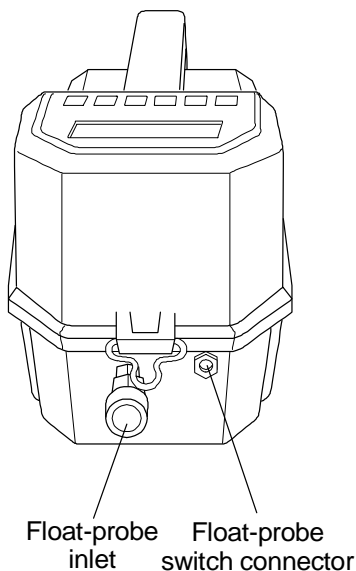

Figure 4-1 Location of Float Switch Jack
1. Connect the dedicated sample hose and the float switch plug to the GT 202, then switch the monitor on (see Figure 4-1).